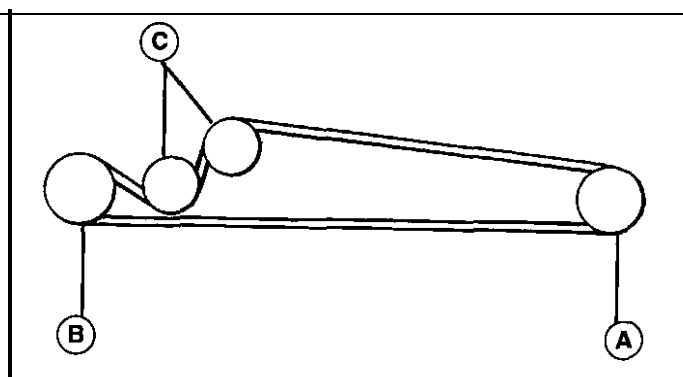

Figure 29. Drive Belt Routing - Hydro Models
7. Install new belt as shown in figures 29 & 30.